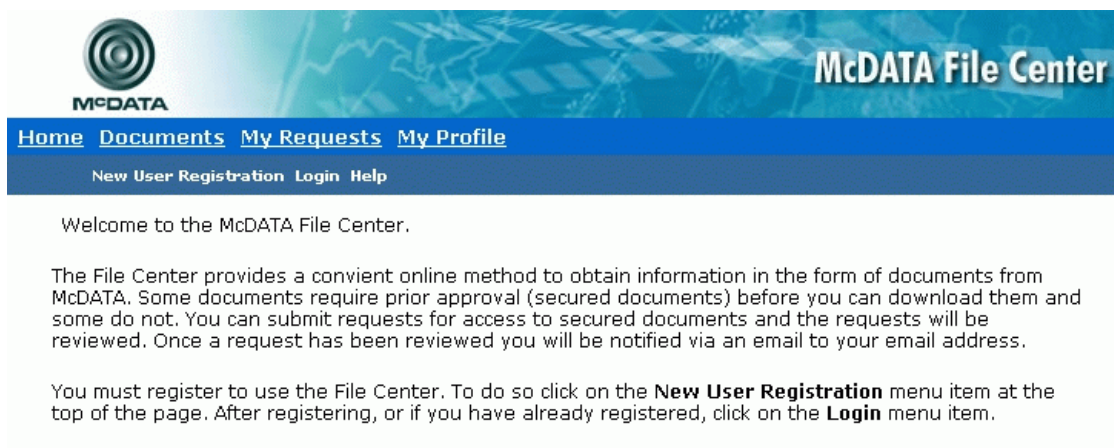

Figure 2-31 McDATA File Center Home Page
1. At a PC with Internet access, open the McDATA File Center home page (Figure 2-31 on page 2-52). The uniform resource locator (URL) is <http://central.mcddata.com>.